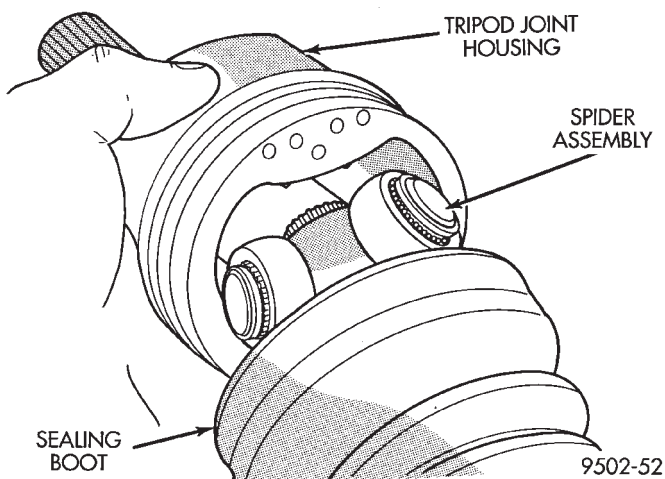

Fig. 26 Spider Assembly Removal from Tripod Joint Housing
(3) Slide the tripod joint housing off the spider assembly and the interconnecting shaft (Fig. 26).